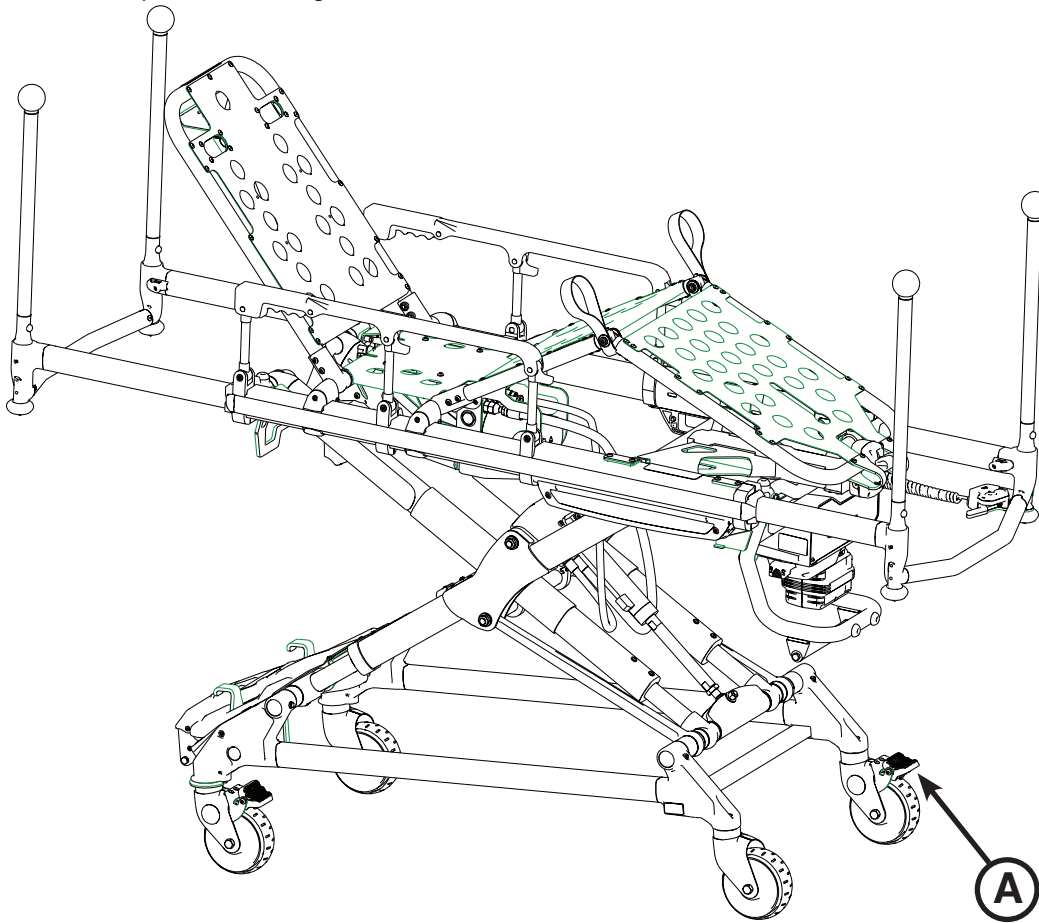

Figure 26: Wheel Lock
To secure the wheel lock(s), press down on the base of the locking pedal (A) until it rests firmly against the surface of the wheel as shown in Figure 26.